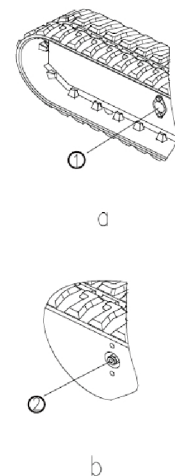

Fig. 2
- 5) Remove the cover ① (a in Fig. 2) on each track frame, and expose the fuel nozzle of the tensioner (② in Fig. 2).
- 6) In order to loosen the track, first loosen the joint ② (Fig. 2) to let the grease flow out, and then retighten it after getting the correct tension.
- 7) In order to tension the track, connect the joint of grease gun (provided as a random tool) with the joint ② (Fig. 2). Then add oil by using a grease gun until it is correctly tensioned.